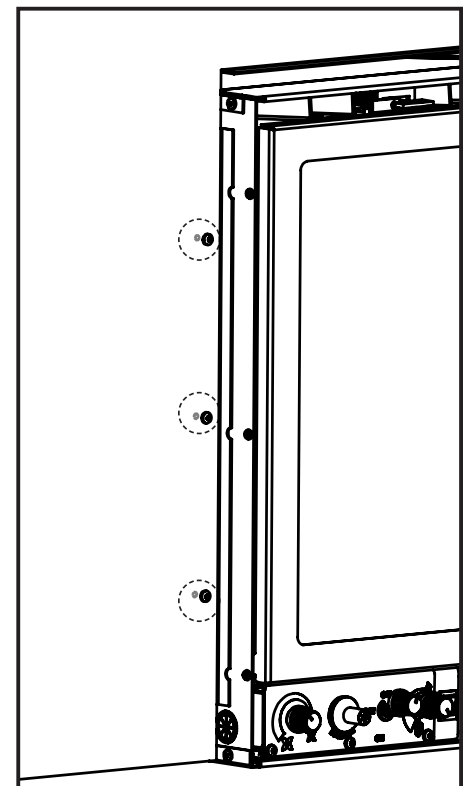

Figure 35: Screw Installation Locations.
2. Install the Trimmable Panel as shown in Figure 35.